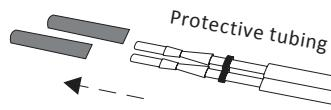

Figure 4-4
4. Once the harness has been routed through the vehicle, remove the protective cover from the pin. **See Figure 4-4.**